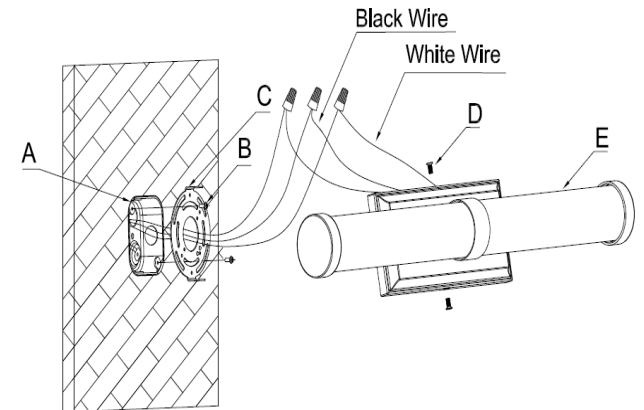

Fig.2
## CONNECTING THE WIRES (FIG. 2)
4. At this point, connect the electrical wires as shown in Fig. 2, making sure that all wire connectors are secured. If your outlet has a ground wire (green or bare copper), connect the fixtures ground wire to it. Otherwise, connect the fixture ground wire directly to the back plate (C) using the green screw provided. After wires are connected, tuck them carefully inside the junction box.